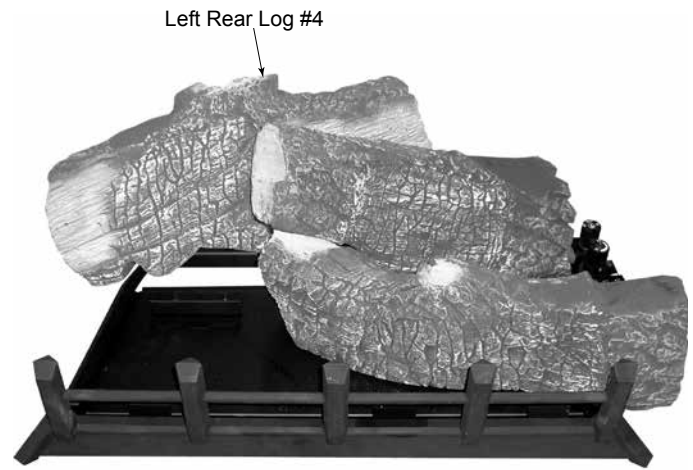

Figure 6.14 - Log #4 Placement
4. Place left rear log (#4) on pin located on rear support bracket on left side and left grate bar. See Figure 6.14.